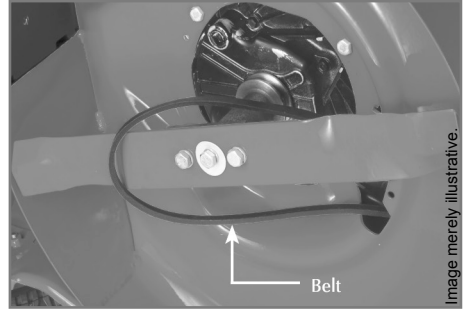

Figure 5
- ✓ In order to remove the rear belt pulley in the engine shaft, remove the lower cover of the belt fixed over the cutting blade and then remove the belt (Fig. 5). If necessary remove the cutting blade flange fixed in the engine shaft.